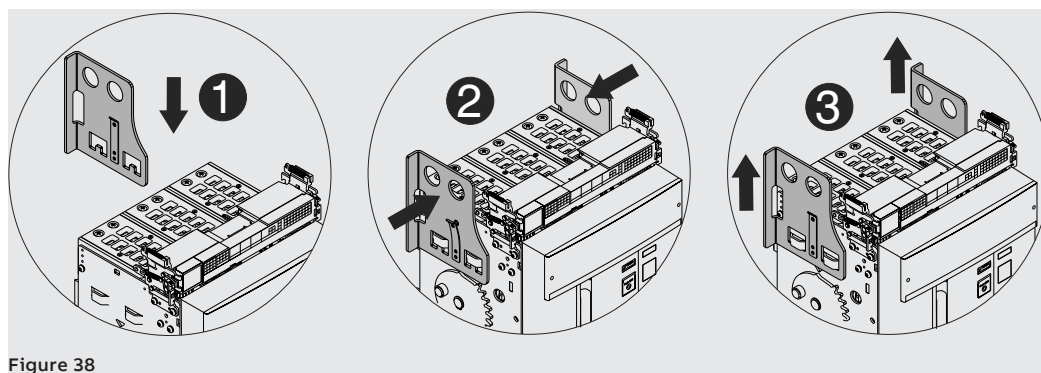

Figure 38
2. Position the lifting plates on the mobile part making sure that the tongue of the plates is latched properly. See Figure 38.